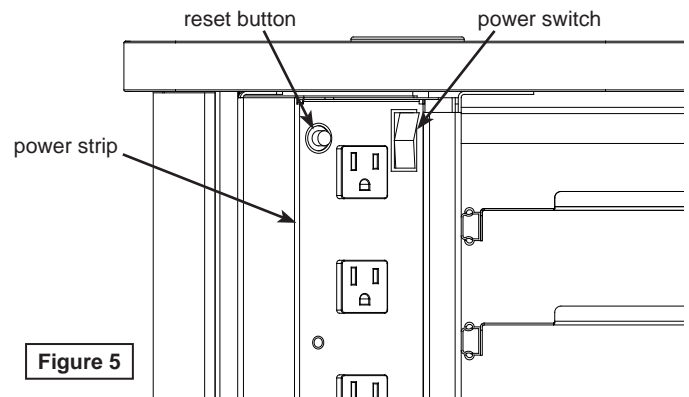

Figure 5
1. With the main power cord unplugged and power strip switched off, plug the laptop charge cords into the power strip. **Figure 5**.